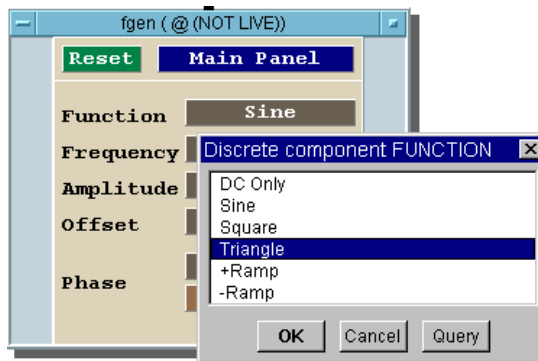

Figure 3-12. The Function Pop-up Menu on fgen
- Click Sine in the Function field to get a pop-up menu, and then select Triangle as shown in Figure 3-12.